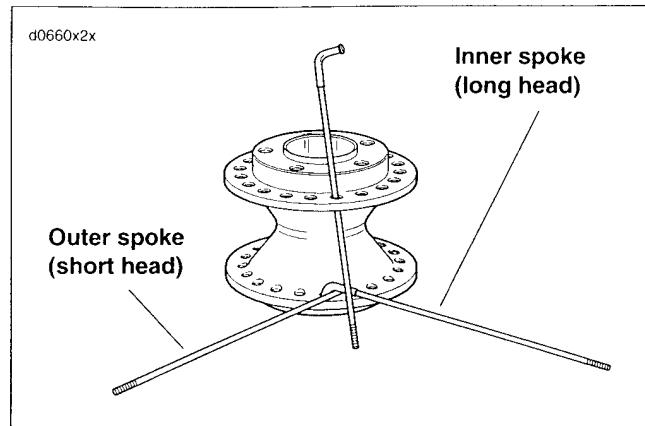

Figure 2-29. Lacing 19-in. Wheel Hub
- See Figure 2-29. Place hub on bench with the brake disc side up. On dual-disc wheel hubs, this is the side with the cast recesses between the brake disc bolt holes. Insert one outer spoke (short head) into any bottom flange hole and swing it clockwise. Insert an inner spoke (long head) in the next hole to the left of the outer spoke. Swing the inner spoke counterclockwise over the outer spoke.